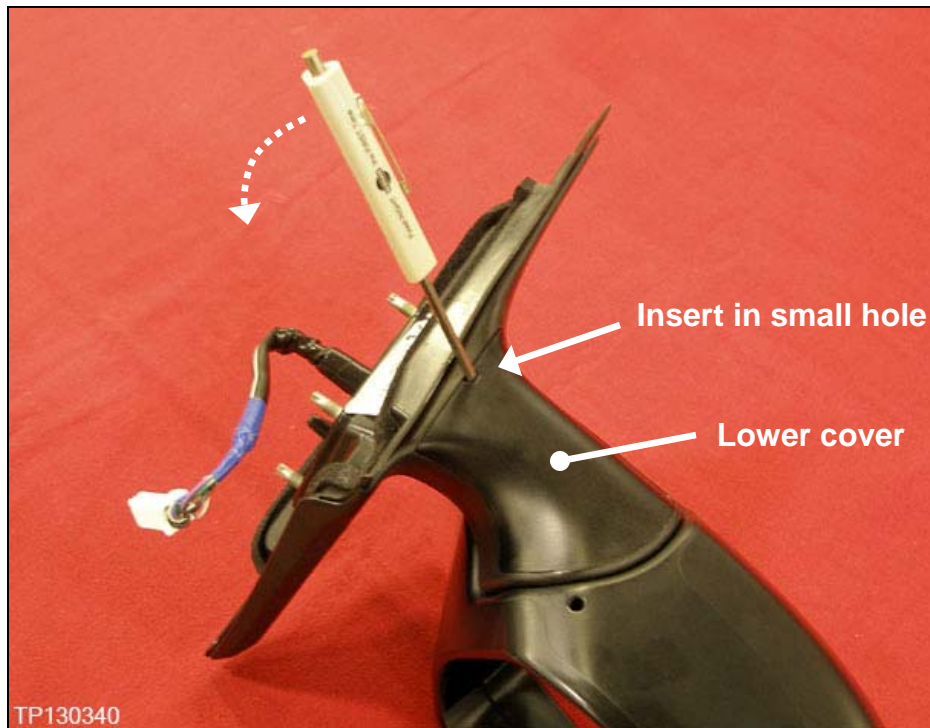

Figure 6
6. Using a pocket screwdriver or other suitable tool, remove the lower cover (see Figure 6).